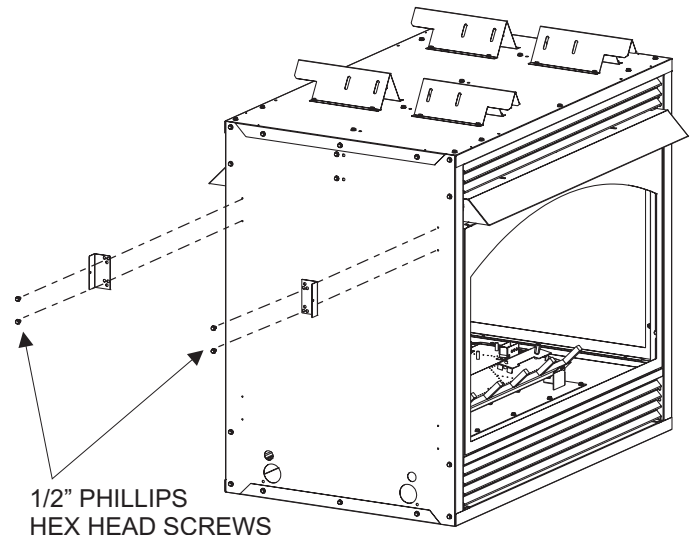

Figure 4
5. Attach the nailing flanges to the rear of the firebox utilizing the predrilled holes in the upper firebox corner with four (4) 1/2" screws. See Figure 4. **NOTE:** The nailing flanges are provided with the fireplace or firebox hardware packet.